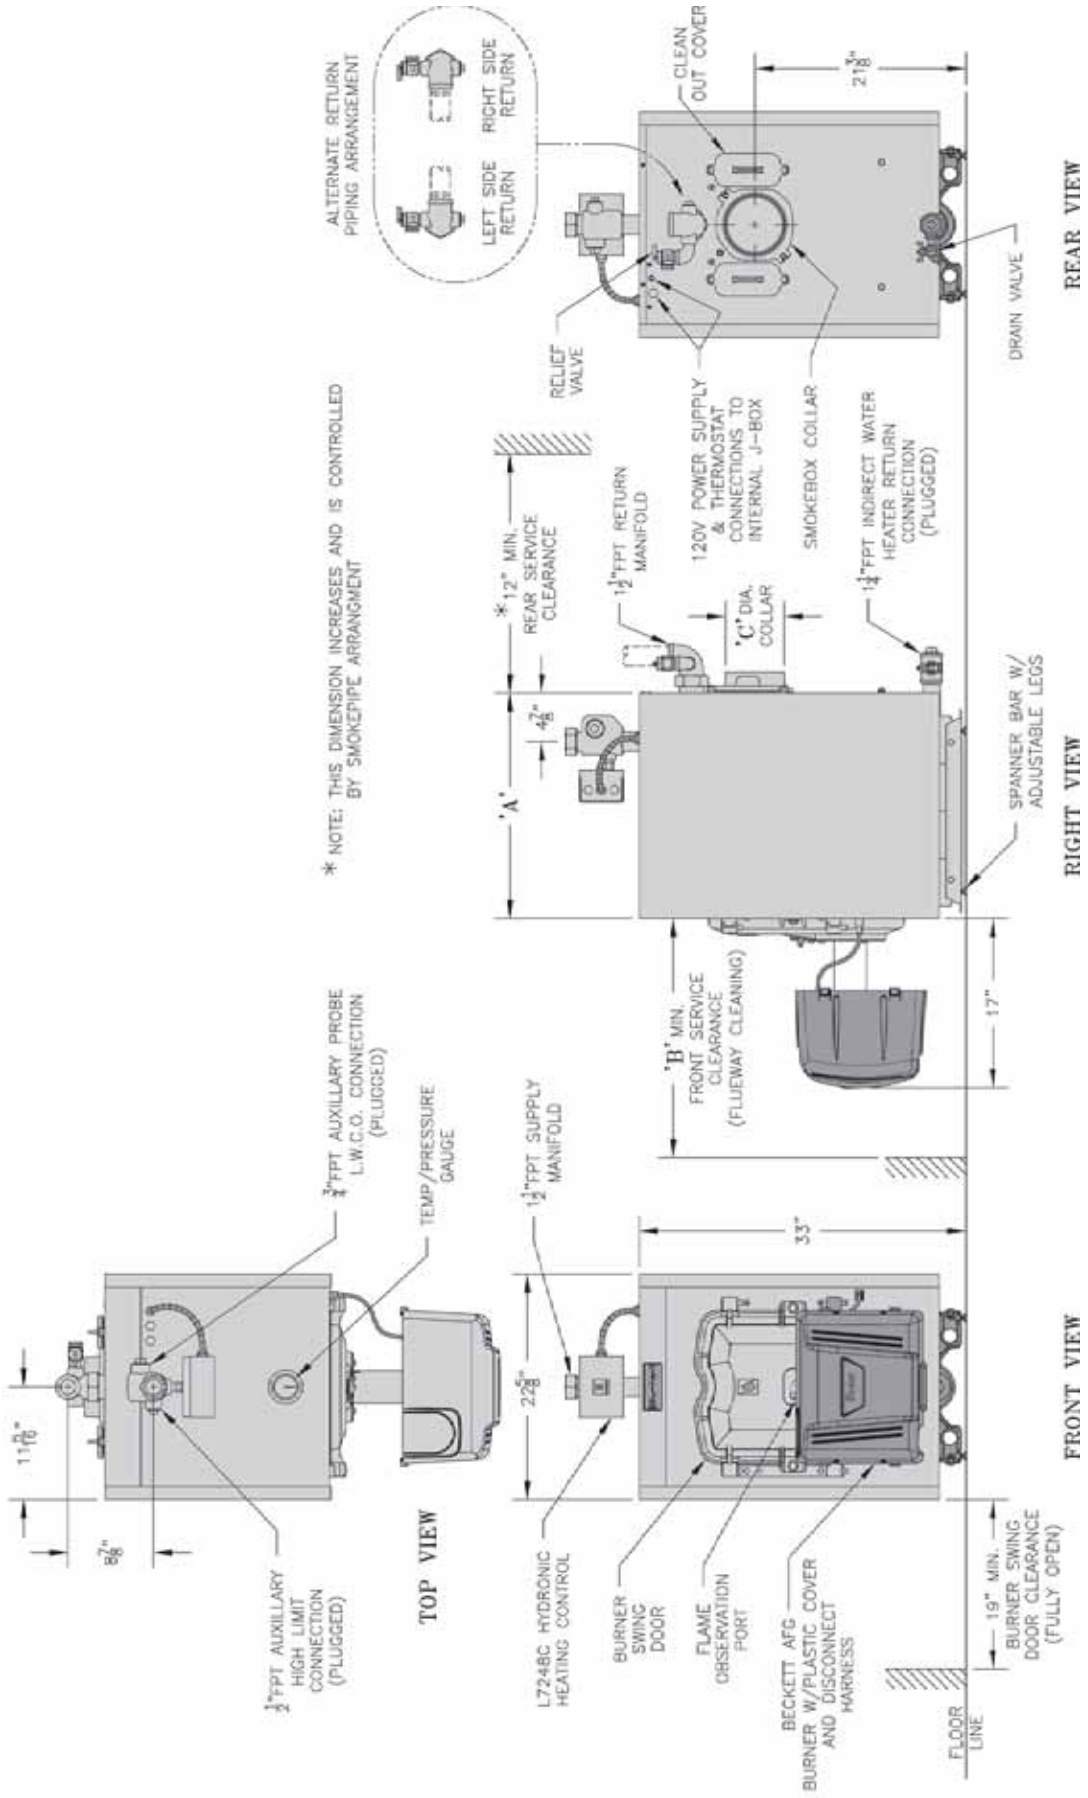

Figure 1: MPO 84 Thru MPO 231 Water Boiler
TABLE 1A: DIMENSIONAL DATA (SEE FIGURE 1)
2. Any claims for damage or shortage in shipment must be filed immediately against the carrier by the consignee. No claims for variances from, or shortage in orders, will be allowed by the manufacturer unless presented within sixty (60) days after receipt of goods.
B. LOCATE BOILER in front of final position before removing crate. See Figure 1.